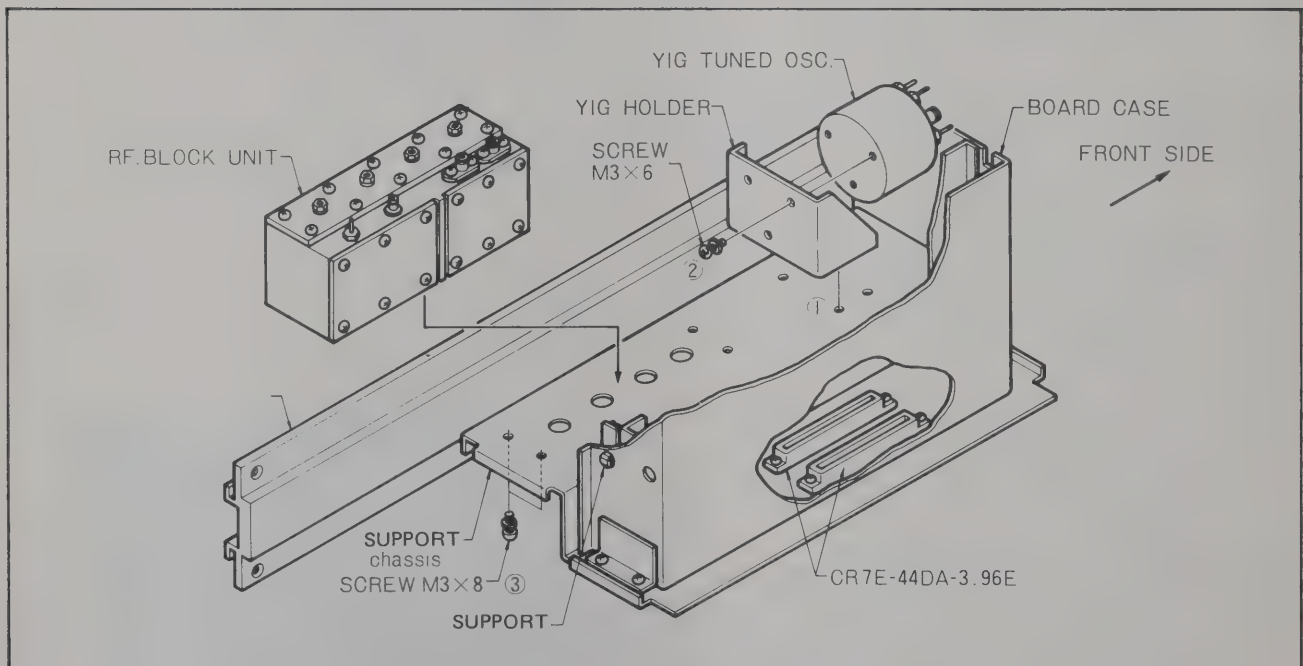

Figure 5.4 YIG & RF. BLOCK Assembly Diagram
- b. Remove the four Phillips machine screws (marked 1 in Figure 5.4) which fasten the YIG holder bracket to the RF BLOCK Assembly.
- d. Remove the three Phillips machine screws (marked 2 in Figure 5.4) which mount the YIG Oscillator to the YIG holder bracket.
- b. To remove the RF Block Assembly, remove the four Phillips machine screws which mount the assembly to the support bracket (marked 3 in Figure 5.4).